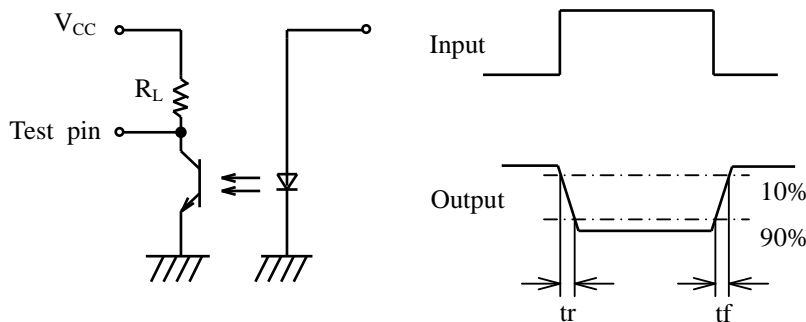

Fig.1 Forward current vs. ambient temperature
*1 The derating factors of absolute maximum ratings due to ambient temperature are shown in Fig. 1, 2, 3.
<Fig. 1>
- 1) 8 products are put in 1 pocket as shown in (a) or (b). <Fig.1>